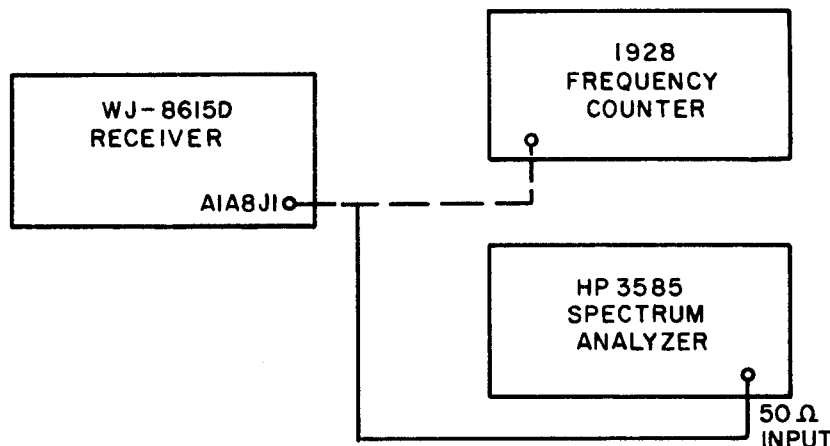

Figure 4-31. Reference Generator Verification, Equipment Connections
- 1) Set the WJ-8615D Receiver to the Test mode, SSB detection mode and connect the test equipment as illustrated by the dashed line in **Figure 4-31**.
- 3) Connect the test equipment as illustrated in **Figure 4-31** by the solid line.